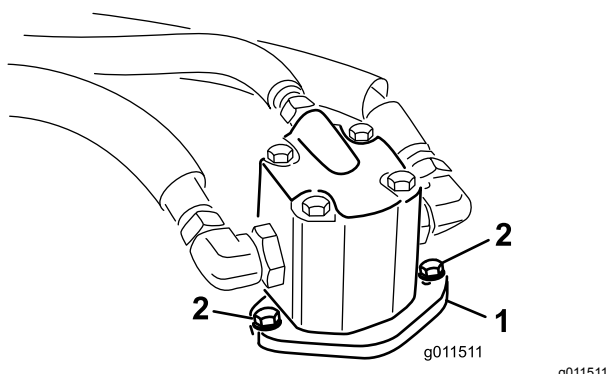

Figure 76
- Remove the bolts securing the hydraulic motor to the mower deck (Figure 76).